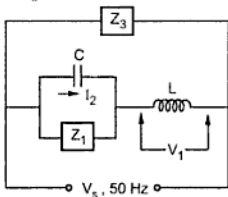

Fig. 5.101
30. In the network shown in the Fig. 5.101,